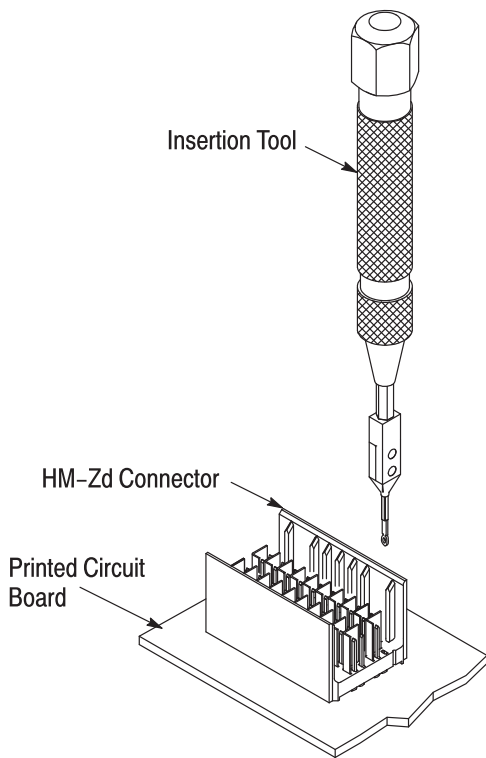

Figure 3
2. Position the insertion tool over the connector and pc board as shown in Figure 3.